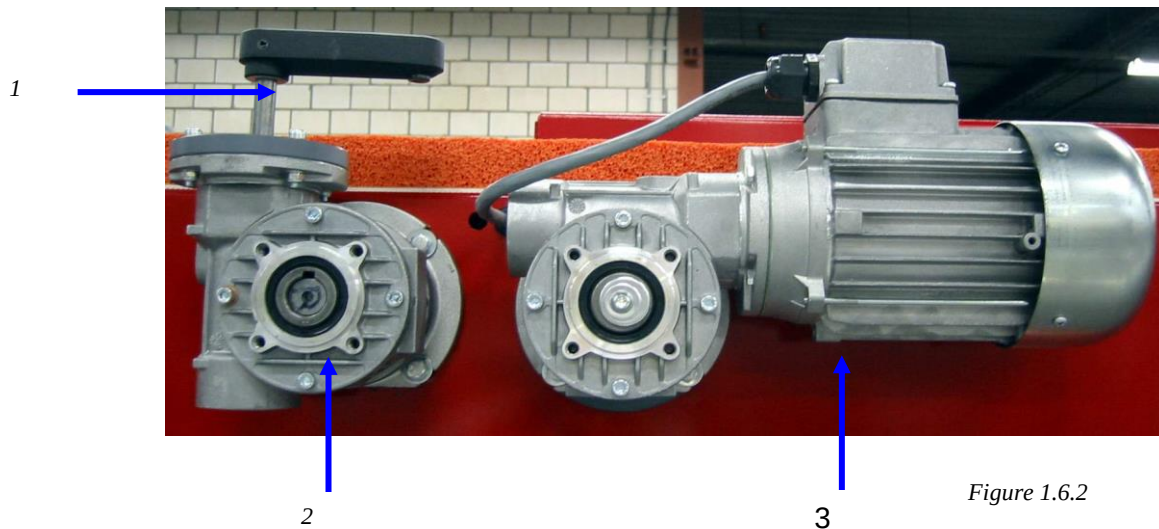

Figure 1.6.2
- Look at *figure 1.6.2*.
- Rotate the lever (1) to achieve the desired belt height. The reductor (2) makes it possible to adjust the belt with great accuracy..
- The electrical motor (3) drives the sponge belt.